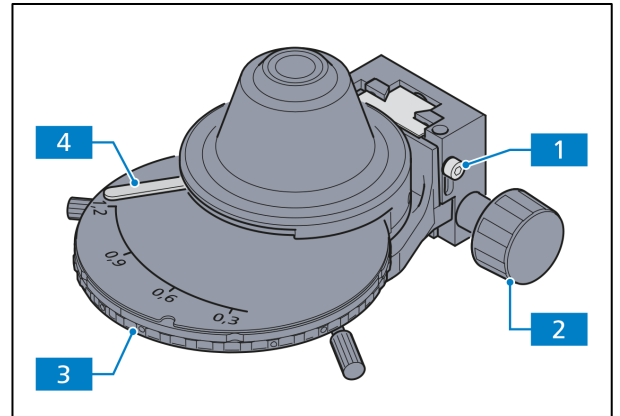

Fig. 4-4 Adjusting the height stop on the condenser carrier
- If condensers with a swiveling front lens are used, swivel these into the beam path with $\geq 10\times$ objectives and turn the knurled knob for vertical adjustment of the condenser (Fig. 4-3/3 and Fig. 4-4/2) to the top stop. Make sure the stop is adjusted to prevent the condenser from lifting out the sample (adjusting the condenser stop, section 4.2.1 (4)).
- On condensers with revolver/modulator disks: turn the knurled ring (Fig. 4-4/3) to position **H** (or **BF** = brightfield).
- To adjust the aperture (contrast), take an eyepiece from the tube barrel. Looking through the barrel adjust the aperture with the adjusting lever (Fig. 4-4/4) of the aperture diaphragm to the size of approx. $\frac{2}{3}$ - $\frac{4}{5}$ of the diameter of the objective exit pupil (Fig. 4-3/E). In most cases this aperture gives the best contrast at almost full resolution and is thus the best compromise for the human eye.
(4) Adjusting the height stop on the condenser carrier
- Loosen the setscrew (Fig. 4-4/1) on the height stop with the Allen wrench (AF 3).
- Close the field diaphragm and adjust the condenser vertically (Fig. 4-4/2) until you get a sharp image.
- Tighten the setscrew (Fig. 4-4/1) on the height stop.